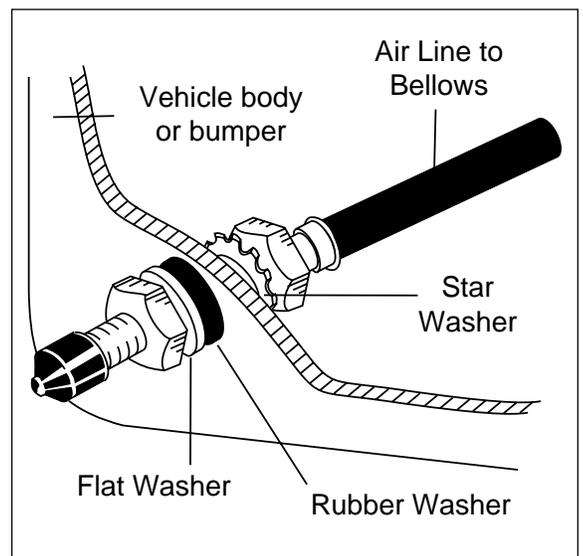

Figure 7
7. Drill two  $\frac{5}{16}$ " holes, and install inflation valves, nuts, and washers as shown in Figure 7.